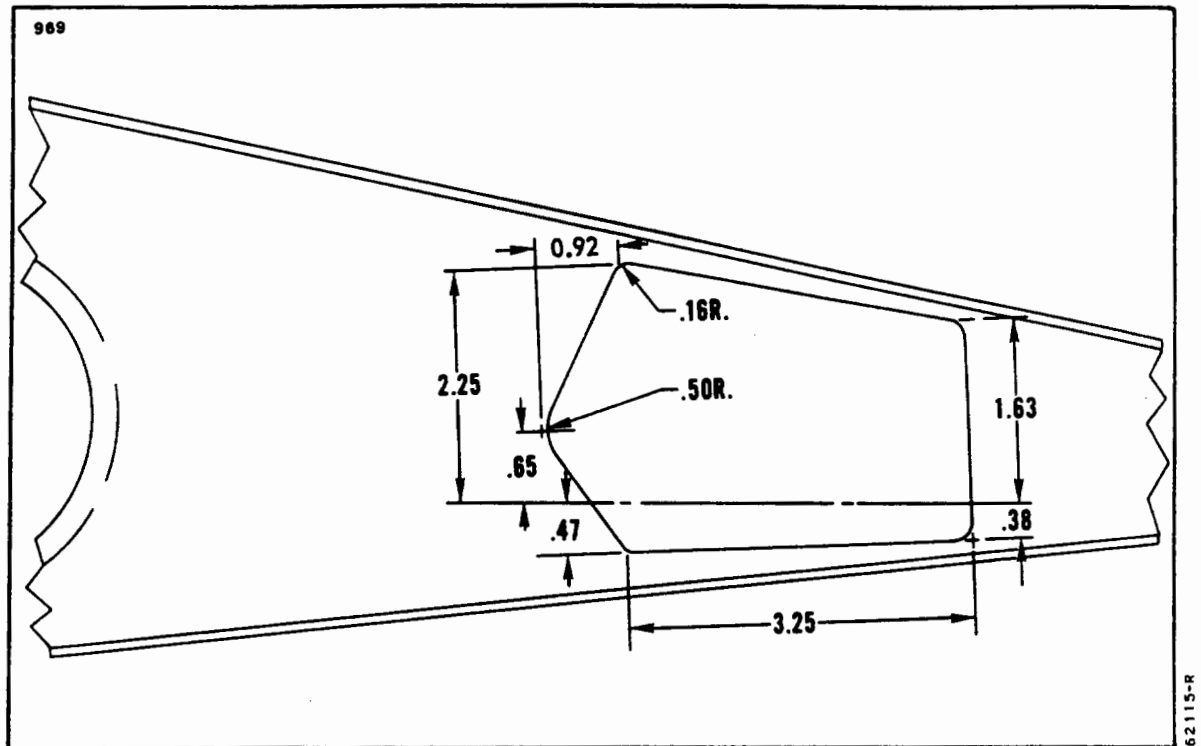

Figure 4-22. Wing Rib Modification
4-76. AILERON BALANCE WEIGHT MODIFICATION. (PA-28-140, Serial Nos. 28-20002 to 28-25547 incl.; PA-28-150, -160, -180, Serial Nos. 28-1 to 28-5339 incl.; PA-28-235, Serial Nos. 28-10003 to 28-11235 incl.; PA-28R-180, Serial Nos. 28-30005 to 28-31119 incl.) To facilitate the use of new aileron balance weight assembly (P/N 66766-00) on above stated airplanes, it will be necessary to modify the balance weight cutout in the wing rib. (Refer to Figure 4-22.) The hole pattern in the new balance weight bracket is the same as the old bracket with the exception of two holes. When replacing the old bracket with the new one, it is permissible to use the new bracket as a hole template to drill the two new holes at their proper location. To install the balance weight assembly, the following procedure may be used:
- d. Using the new bracket as a template, drill the two new holes in the rib. (Refer to Figure 4-22.)